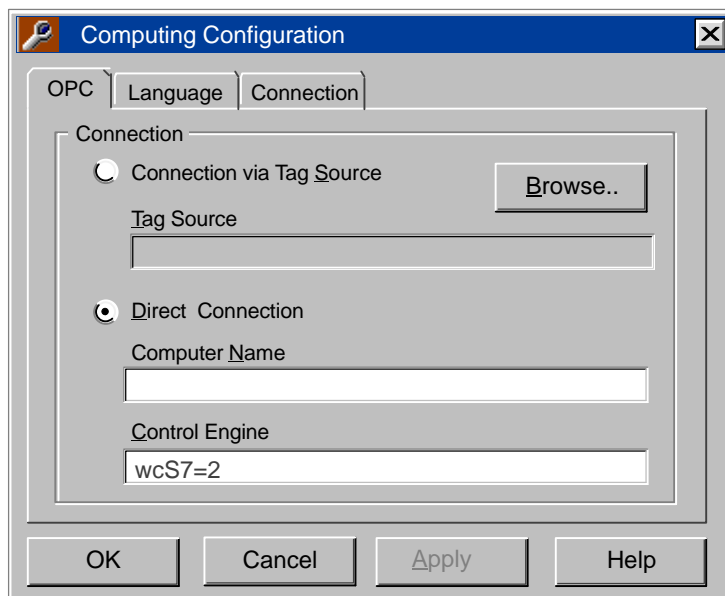

Figure F-5 Configuring the OPC Connection
You can use the optional OPC application to connect to a control engine over a network, such as a local area network (LAN). The Direct Connection option (Figure F-5) allows you to connect to a specific control engine on a specific computer.
1. Select the **Simatic > PC Based Control > Computing Configuration** menu command from the Start menu to display the Computing Configuration dialog box. Select the OPC tab. See Figure F-5.
2. Select the Direct Connection option and enter the name of the control engine. For example: As shown in Figure F-5, `wcS7=2` is the S7-2xx with a node address of 2.